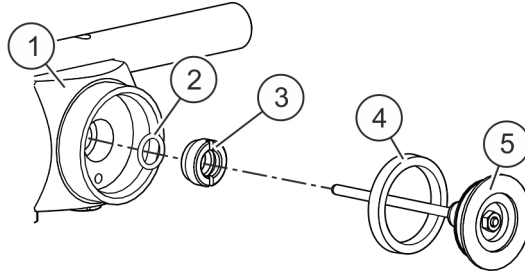

Fig. 19: Axial ring seals
3.  Pull the slotted ring ( Fig. 19/4) from the axial ring ( Fig. 19/5).
4.  Unscrew the threaded ring ( Fig. 19/3) from the main element ( Fig. 19/1).
5.  Remove the seal ( Fig. 19/2) from the threaded ring ( Fig. 19/3).
Use a wire hook to pull out the seal ( Fig. 19/2). Be careful not to damage any threads.